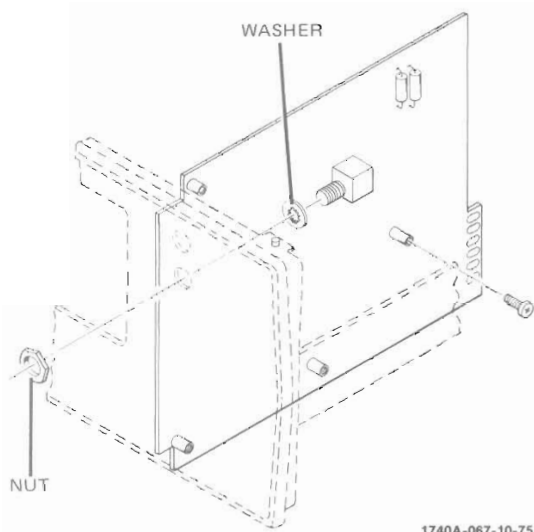

Figure 8-8. Location of A7 Attaching Screws
h. Remove four screws holding A7 to sheet metal (figure 8-8).